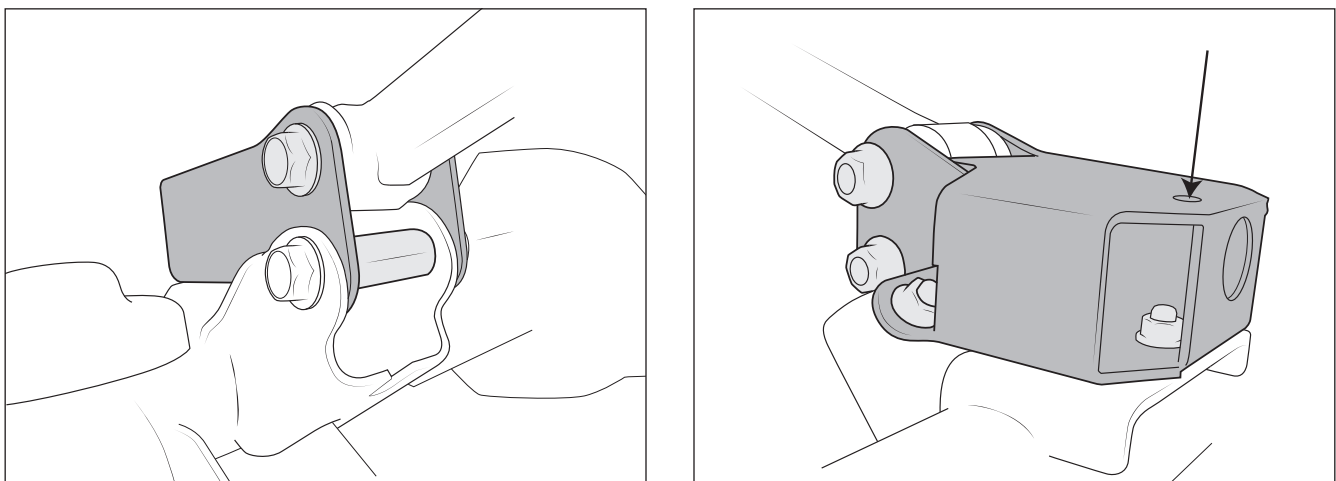

Figure 27
- B. Fasten brackets to axle using M12x35mm hardware as shown (fig. 27). Torque to 75 ft-lb.